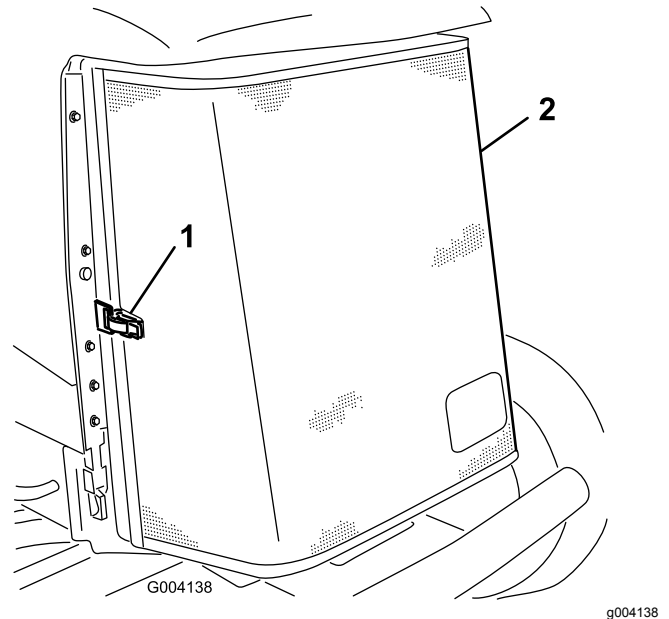

Figure 48
3. Unlatch the clamp and pivot open the rear screen (Figure 48).